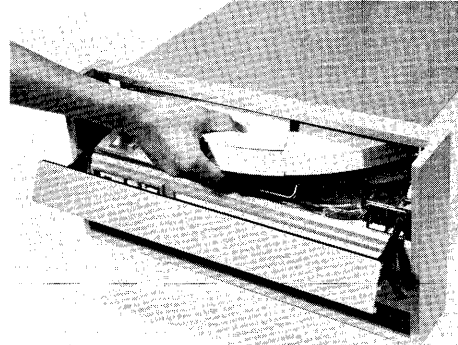

Figure 3-2. Cartridge Loading/Unloading, Front Load Models
- (3) Grip the cartridge by the molded handle and position the cartridge in the receiver opening as shown in Figure 3-2. Note that the raised portion of the cartridge top is aligned between the guide rails at the top of the receiver. Slant the cartridge to match the slope of the bottom of the receiver.
- (3) Grip the cartridge by the molded handle and pull the cartridge slowly out of the receiver (Figure 3-2).
- (4) Unless another cartridge is to be inserted immediately, close the door to exclude dirt and contamination from the interior of the drive.